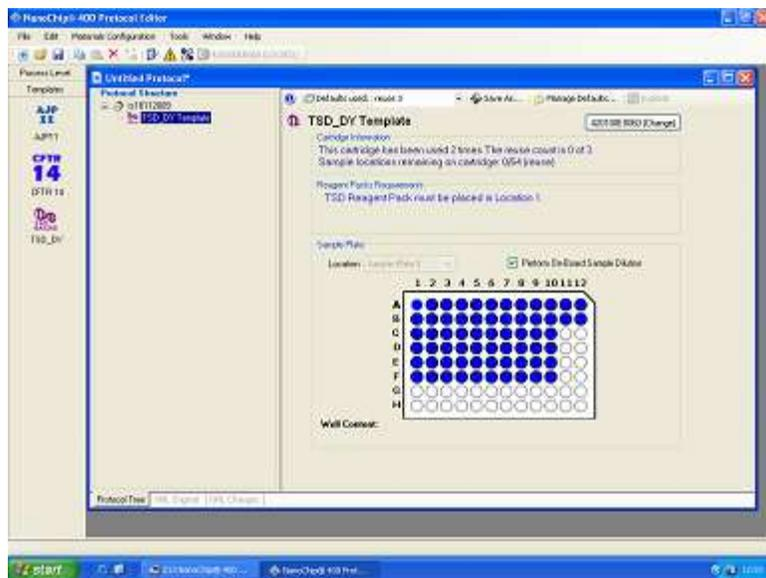

Figure 4. Protocol Editor Screen
6. When a screen shown in figure 4 appears, mark the wells with the samples on the plate drawing and select "**Perform On-Board Dilution**".